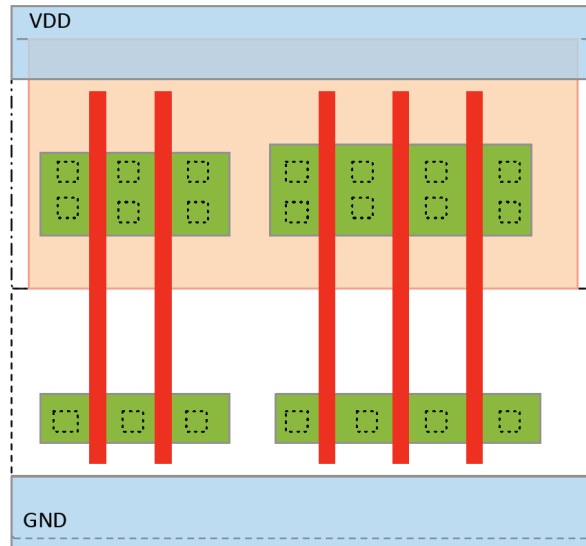

Figure 3: A template for the layout of the XOR gate.
- Draw the layout of the transistor diagram you drew in task a) in the supplied template. You are only allowed one connection point from the outside to each of the input signals A and B. Use the template supplied in Figure 3. It is repeated again at the end of this exam on tear-off pages. (6 p)